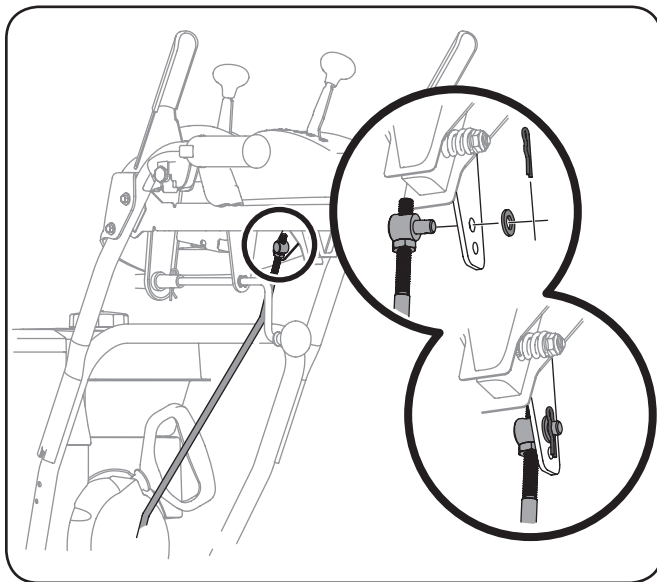

**Figure 3-9**
7. Remove the cotter pin and washer from the ferrule on the end of the shift rod. See Figure 3-9 inset.